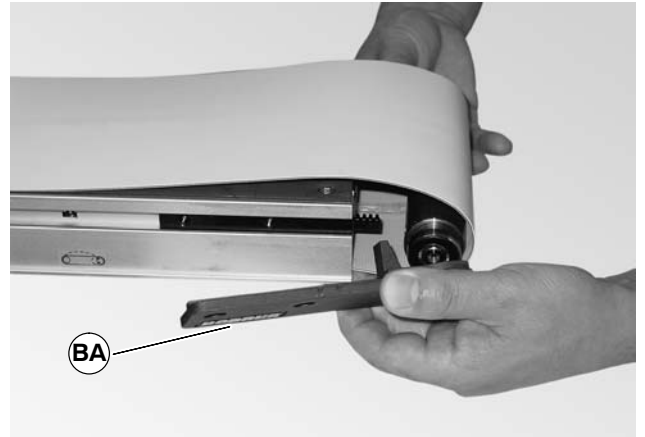

Figure 39
2. Place the head plate (BA of Figure 39) and attach the head plate to the conveyor frame with the two (2) screws removed. Tighten screws 7Nm.